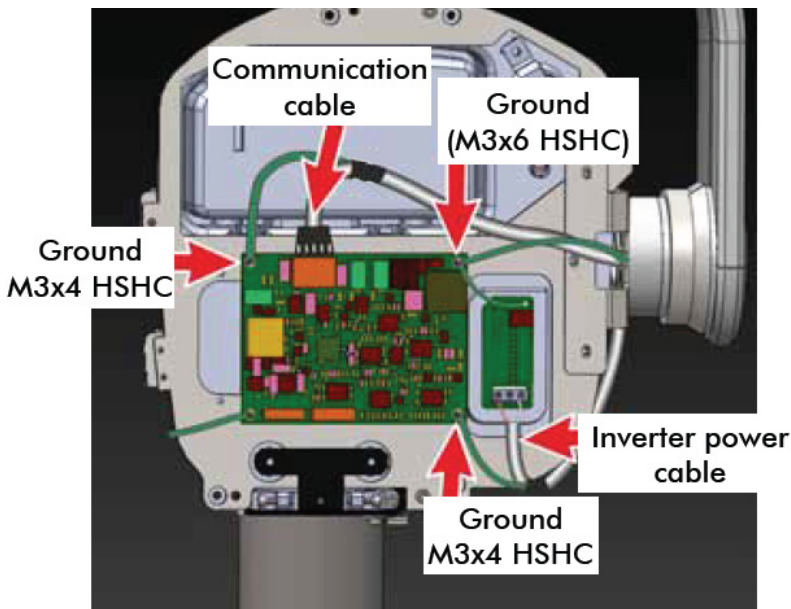

Figure 49
- Press the connector locking tab and pull the cable connector (communication cable) connected to J4 connector of the control board as shown in the Figure 49 .
- Disconnect the INV power cable from the sealing board 3 pin connector -pins 1 & 3 as shown in the Figure 49 (hold the connector firmly by hand while removing) using Jewel screw driver.
- Remove the screws used for GND wire connections for both cables at 3 corners of the Control board using 2.5mm allen key as shown in Figure 49 and put back the screws in its location.